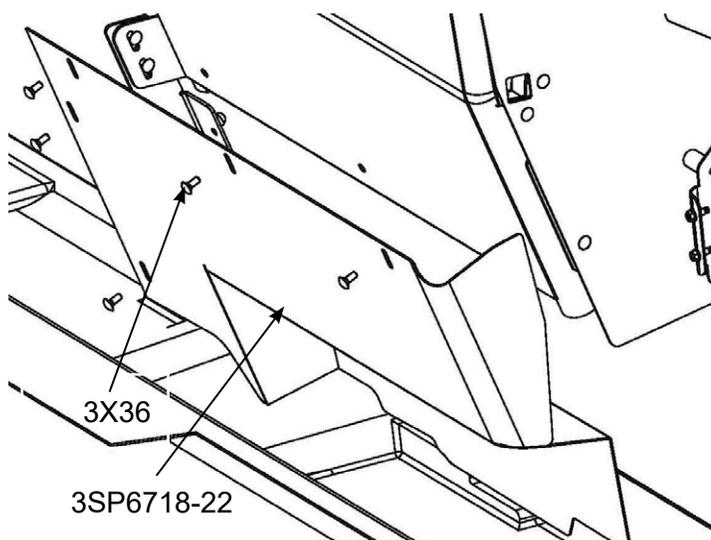

Fig. 6
- A. Next, install the seat protector (3SP6718-22) by aligning holes with the partition and center bracket (3PK6718-21) and fasten using (3X36) bolts and (3X16Z) whiz nuts. (Fig. 6)